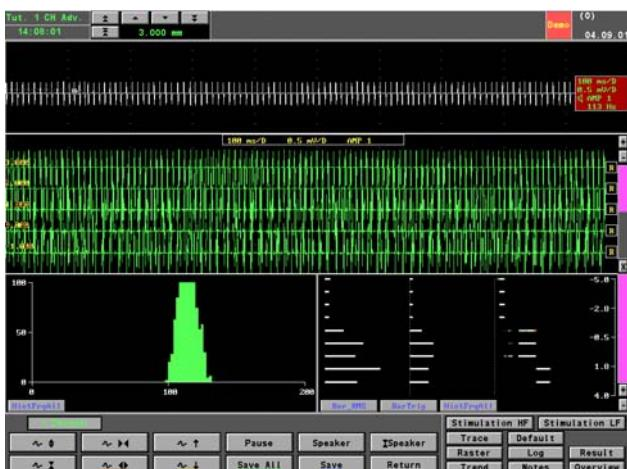

Figure 86 The Electrode Has Passed the Target by 3.000mm
- Alter the distance to the target from 2.000 to 3.000mm, see Figure 86 below.